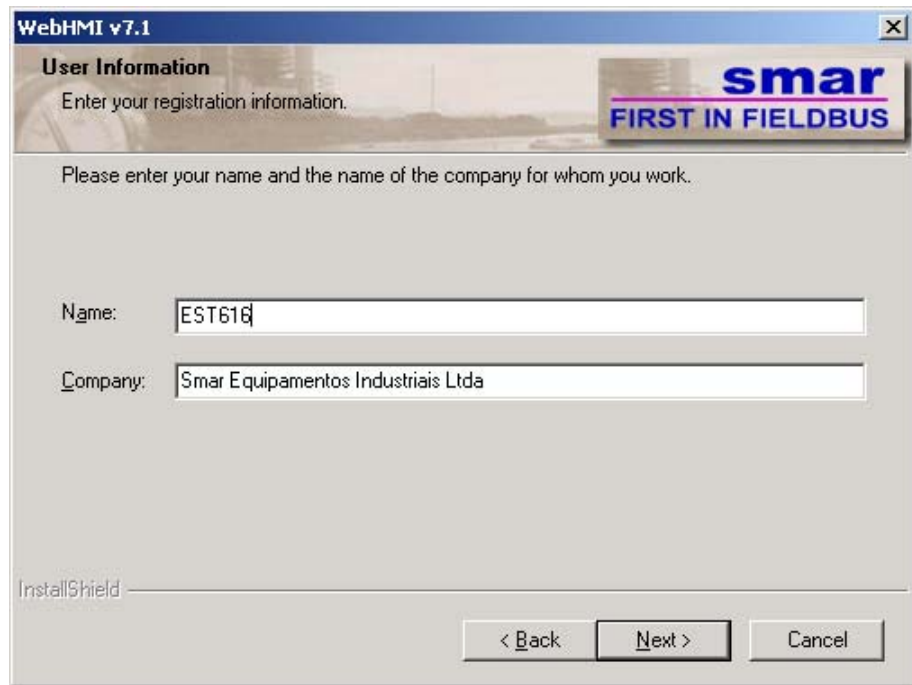

Figure 2.12. User Information Dialog Box
5. The **User Information** dialog box will appear, as shown in **Figure 2.12**. Type your (the user's) name in the **Name** field; your company's name in the **Company** field; and your WebHMI product's serial number in the **Serial** field. Click the **Next** button to continue.